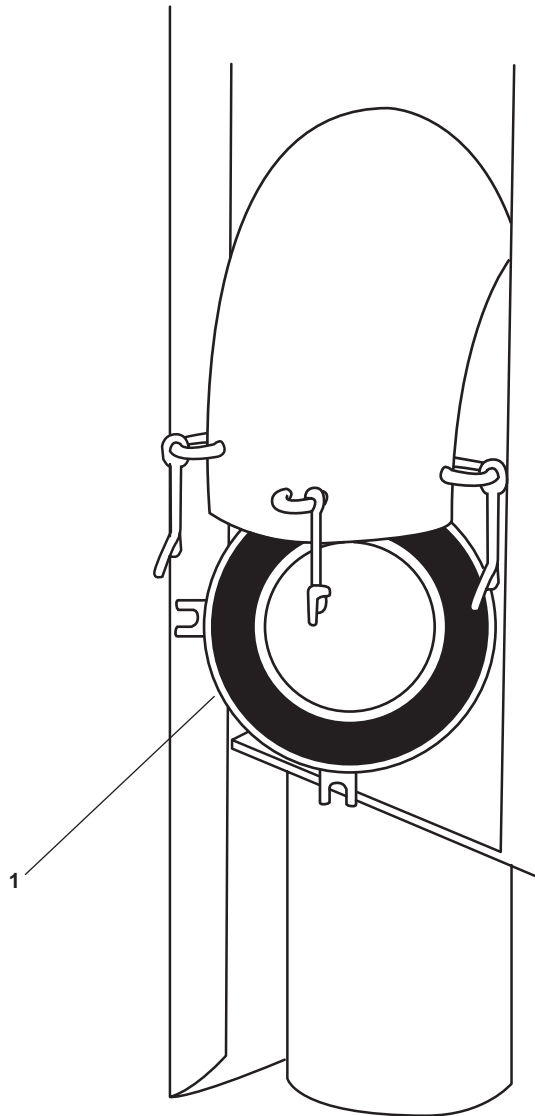

Figure 5. AMS 1 Supply Fan Intake Hinged Cover
- e. AMS 1 supply fan intake hinged cover (figure 5, item 1)